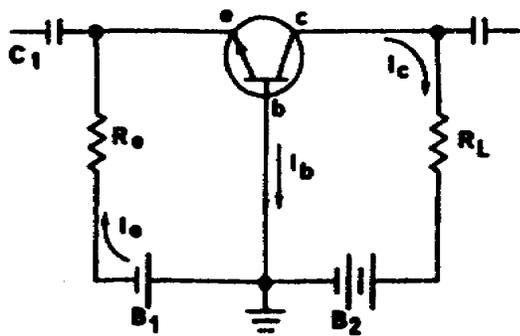

Figure 122. Common base amplifier.
6. **Transistor Amplifiers.** Let's put a signal voltage into the circuit of figure 122 and trace the electron flow. A coupling capacitor ( $C_1$ ) is used to couple the signal into the emitter-base circuit.  $R_e$  provides the right amount of forward bias. When the signal voltage rises in a positive direction, the emitter will be made less negative with respect to the base. This difference will result in a reduction of the forward bias on the emitter-base circuit and, therefore, a reduction in current flow through the emitter. Since the emitter current is reduced, the collector current will likewise be reduced at the same proportion. As the signal voltage starts increasing in a negative direction, the emitter will now become more negative with respect to the base, resulting in increased forward bias. Increased forward bias